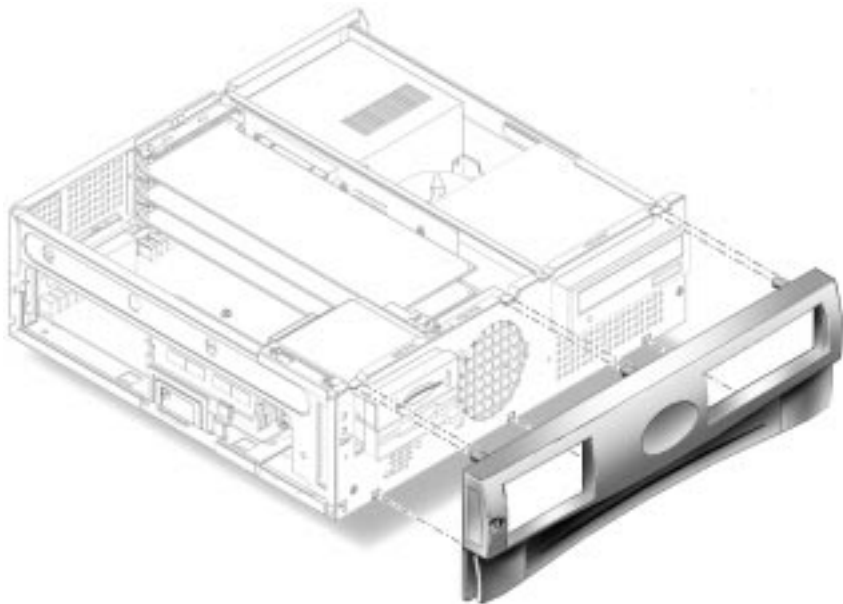

FIGURE 6-7 Removing the Front Bezel
2. **Remove the front panel bezel by lifting the three tabs and gently lifting the bezel from the system (FIGURE 6-7).**
2. **Remove the front panel bezel by lifting the three tabs and gently lifting the bezel from the system (FIGURE 6-7 on page 6-11).**